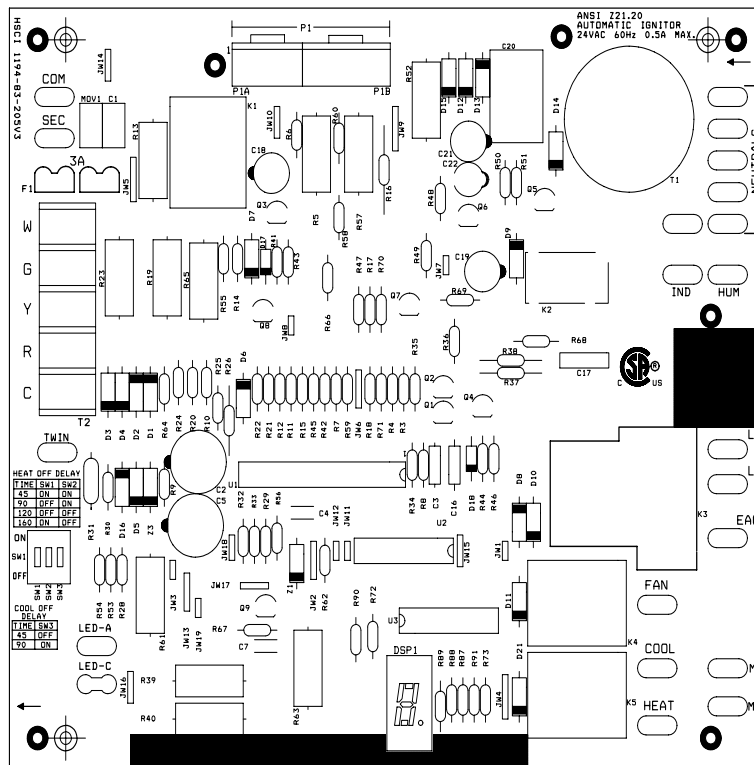
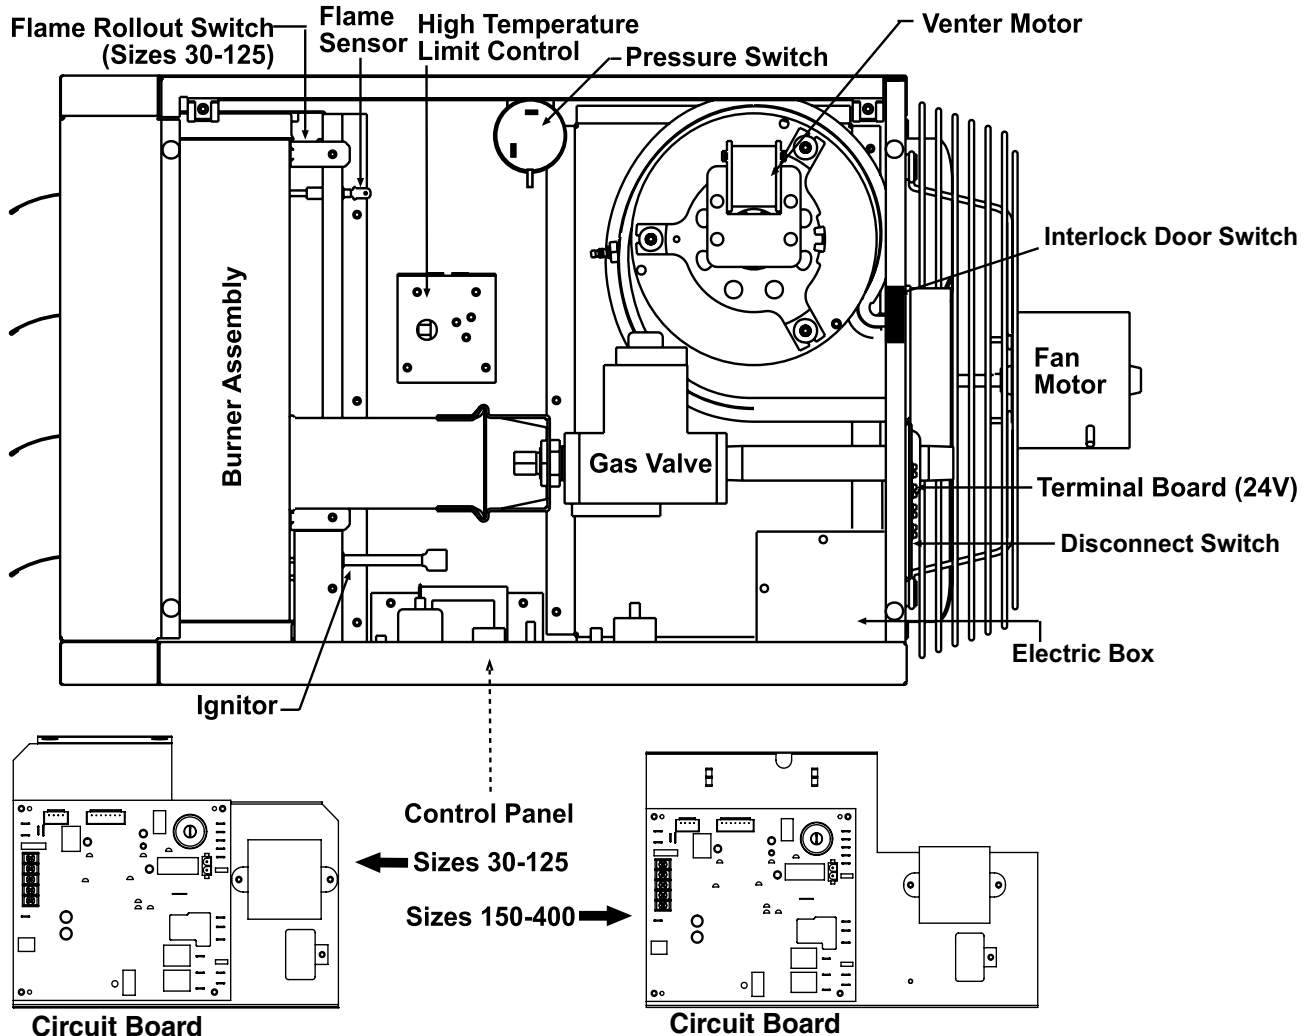

Figure 11. Circuit Board (DSI Control Module)
Figure 12. Component Locations (Typical)
- The circuit board (see Figure 11) is located inside on the bottom of the control compartment. The circuit board is polarity sensitive. It is advisable to check the electrical supply ensure that the black wire is the **hot** wire and that the white wire is the **neutral** wire. The **hot** wire must be connected to terminal L1 on the circuit board.
Locations for the following controls are shown in Figure 12.
- The pressure (combustion air proving) switch (see Figure 12 for location) is a pressure-sensitive switch that monitors air pressure to ensure that proper combustion airflow is available.
All units are equipped with a temperature-activated, automatic-reset high temperature limit control (see Figure 12 for location). The control is factory-set and is non-adjustable. If the setpoint is reached, the control interrupts the electric supply to the gas valve. This safety device provides protection in the case of motor failure or lack of airflow due to a restriction at the inlet or outlet.
UDX model unit sizes 030–125 are equipped with a temperature-activated, manually-reset flame rollout switch (see Figure 12 for location). The flame rollout switch is located at the top of the burner assembly. The switch is factory-set and is non-adjustable. If the setpoint is reached, the switch interrupts the electric supply to the gas valve. If the flame rollout switch activates, identify and correct the cause before resetting the switch.
All unit sizes of UBZ and UDZ models are equipped with an interlock door switch (see Figure 12 for location) that prevents the heater from operating when the service door panel is open. The service panel is equipped with a pliable gasket that fully seals the door to provide added protection to prevent building air from entering the combustion zone of the heater.
The main operating gas valve (see Figure 12 for location) is powered by the 24V control circuit through the thermostat and safety controls. The diaphragm-type valve is pre-set at the factory and provides regulated gas flow.
The venter motor (see Figure 12 for location) is assembled to the venter wheel and operates to provide combustion airflow. Operation is controlled by the circuit board (see Figure 11). Refer to the Circuit Board \(DSI Control Module\) section for details.
The heater's ignition system is controlled by a circuit board (Direct-Spark Integrated (DSI) control module, see Figure 11) that monitors the safety devices and controls the operation of the fan and venter motors and the gas valve between heat cycles. The module's seven-segment display is visible through a viewport on UBZ and UDZ models. To view the seven-segment display on UBX and UDX models, the door panel requires removal. In addition, there is a status LED on the bottom of the heater. Its status indications are **off** (heater is not powered or control board fault), **steady on** (heater is on with no faults), or **flashing** (heater is on with fault(s)). Additional status indications appear on the display at the bottom of the control module (labeled as DSP1, see Figure 11). The display's codes are listed and described in Table 17.